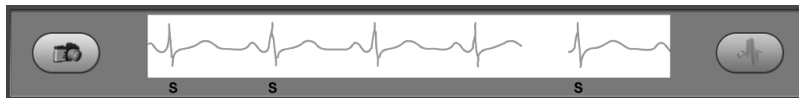
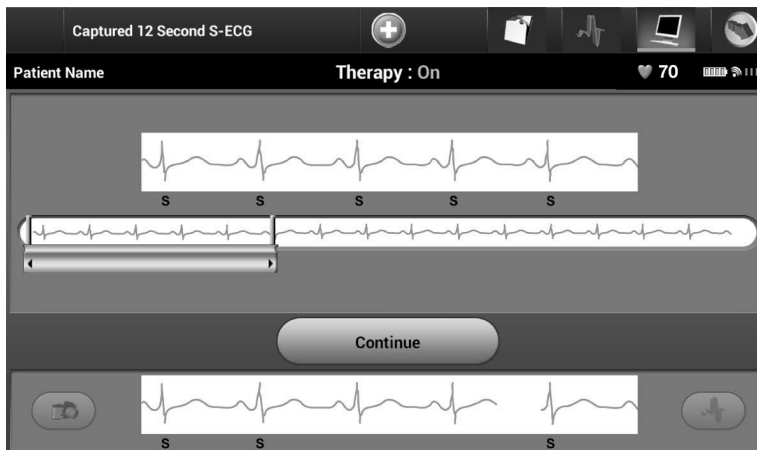

Figure 45: *Select the Capture S-ECG button*
Figure 46: Captured S-ECG rhythm strip
1. Select the Capture S-ECG button located to the left of the Live S-ECG window (Figure 45). The S-ECG will scroll across the display screen. Calipers appear below the Captured S-ECG rhythm strip (Figure 46). Each 12-second recording is date and time stamped according to the programmer's date and time setting.